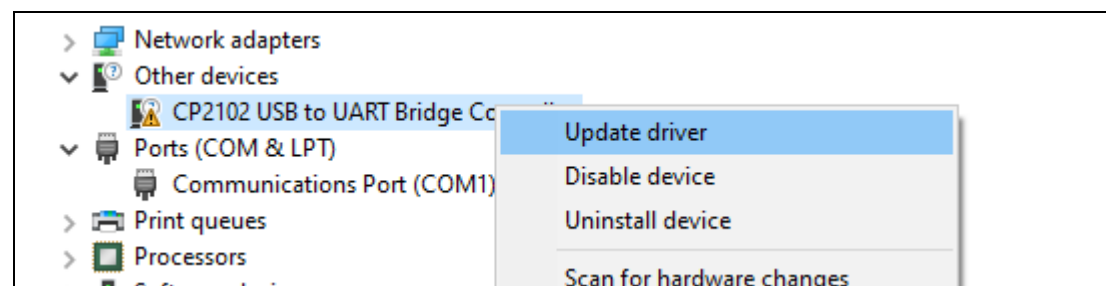

Figure-1.15. Update driver
16. Right click the mouse on the unknow device and select 'Update driver' (Figure-1.15).